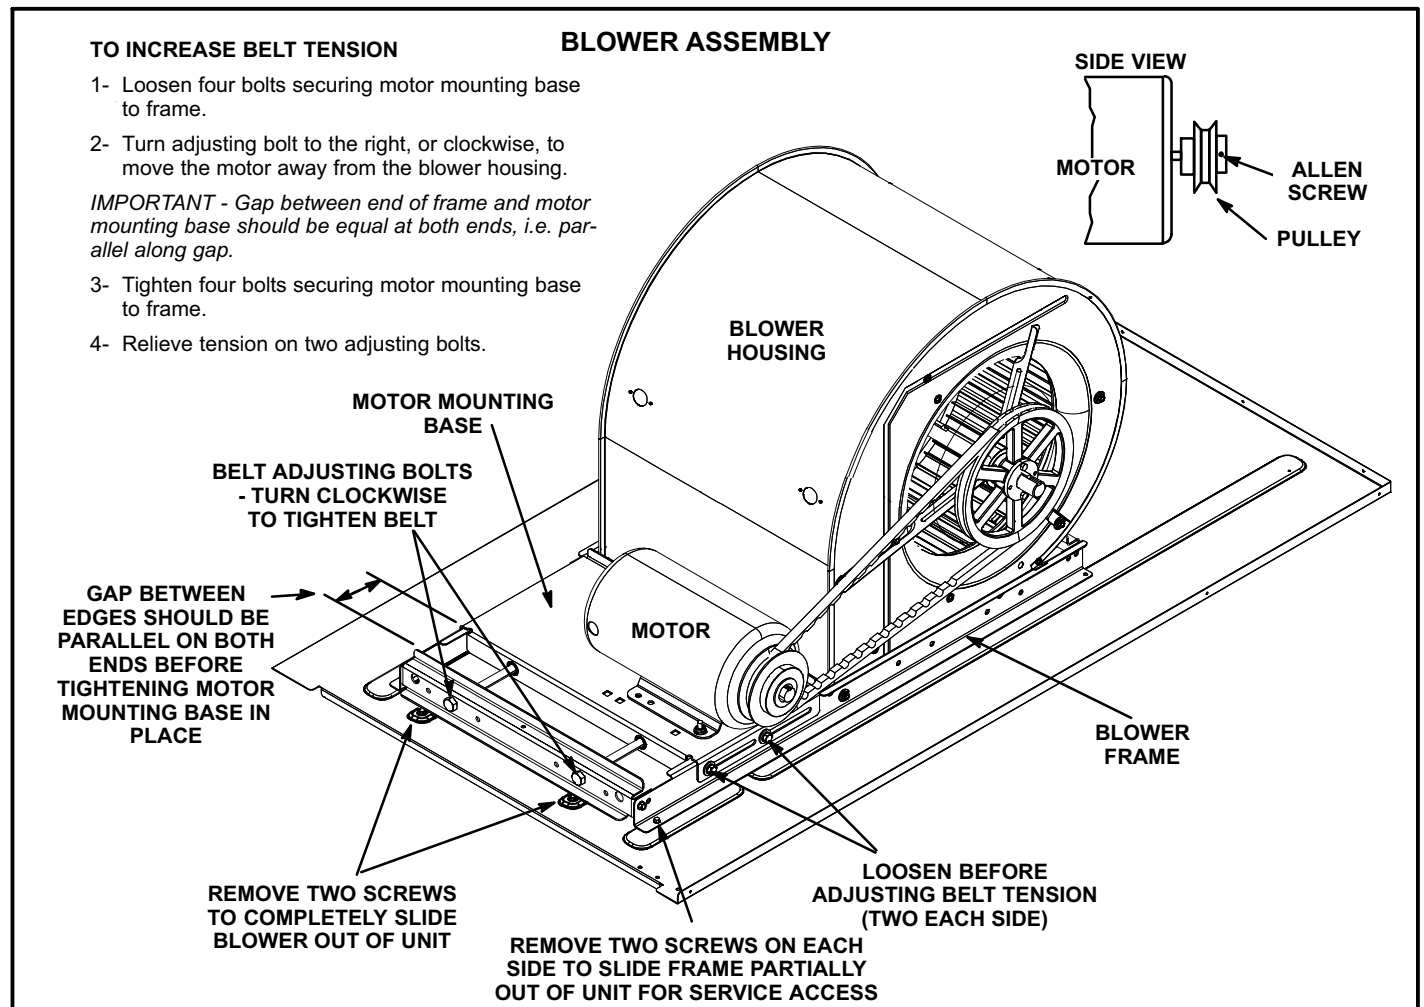

FIGURE 10
The blower compartment in all KCA092/150S units is located between the evaporator coil and the condenser coil section. The blower assembly is accessed by disconnecting the blower motor. See *Blower Access* in the Operation/ Adjustment section. The blower pulls out as shown in figure 10.
- The blower RPM can be adjusted at the motor pulley. Loosen Allen screw and turn adjustable pulley clockwise to increase CFM. Turn counterclockwise to decrease CFM. See figure 10. Do not exceed minimum and maximum number of pulley turns as shown in table 1.
- Loosen four bolts securing motor base to mounting frame. See figure 10.